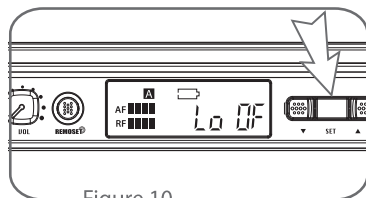

Figure 10
- Press "Set" again until the Lock setting window shows. (Figure 10)